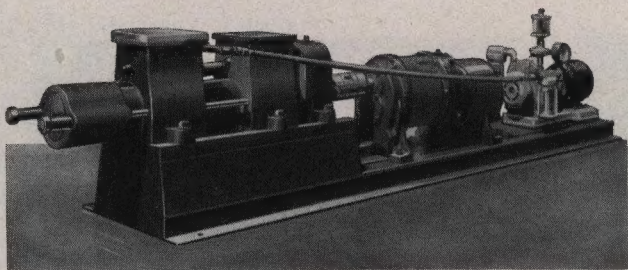

FIG. 106
**NOTE:** Machine can be fitted with gear motor drive as shown in Fig. 106 at some additional cost.